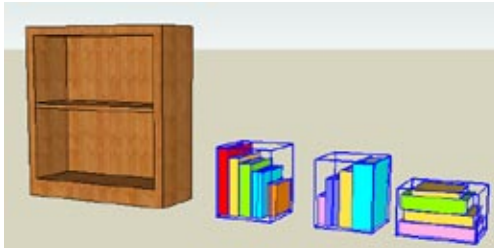

Figure 6-18
2. Make each stack of books into its own group (Figure 6-18).